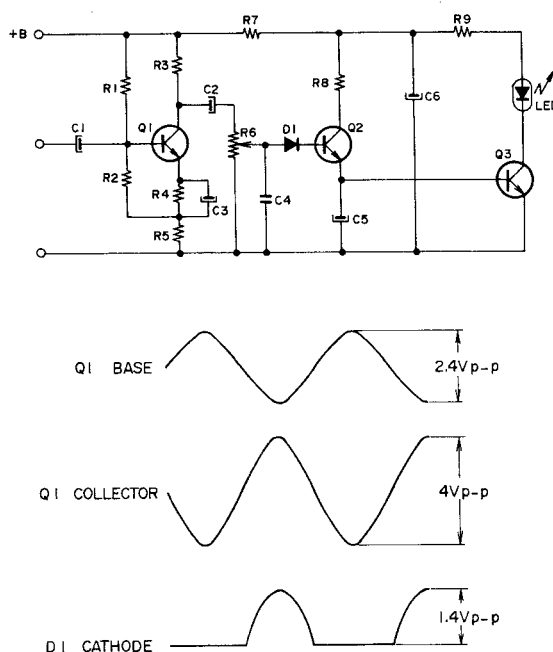

Fig. 15
- 1) The peak level indicator circuit is shown in Fig. 15, and is comprised of ordinary Amp (Q1), rectifier diode (D1), switching circuit (Q2, Q3) and luminous diode (LED).
- 2) When the recording signal reaches +8 dBm, D.C. half-wave rectifying current is supplied to the base of transistor Q2 and Q2 lead through is effected (Q2 is turned ON) as illustrated by the lower diagram in Fig. 15.